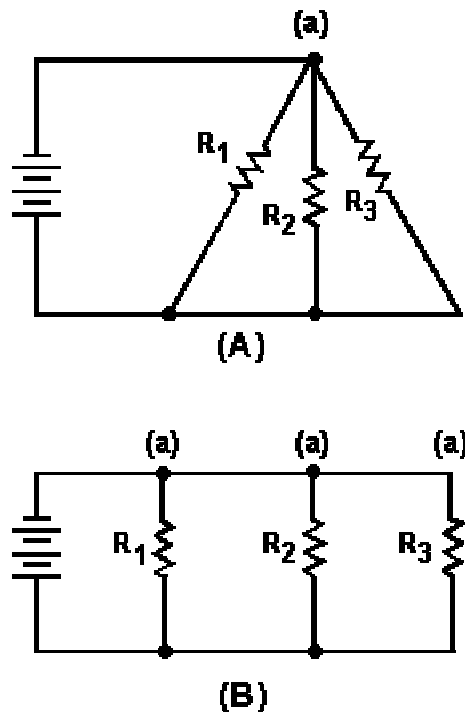

Figure 3-64.—Simple voltage divider.
Figure 3-64 is used to illustrate the development of a simple voltage divider. The requirement for this voltage divider is to provide a voltage of 25 volts and a current of 910 milliamps to the load from a source voltage of 100 volts. Figure 3-64(A) provides a circuit in which 25 volts is available at point B. If the load was connected between point B and ground, you might think that the load would be supplied with 25 volts. This is not true since the load connected between point B and ground forms a parallel network of the load and resistor R_1 . (Remember that the value of resistance of a parallel network is always less than the value of the smallest resistor in the network.)
The voltage divider circuit can now be drawn as shown in figure 3-64(B).